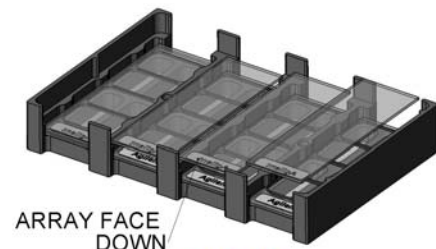

FIGURE 5
5. Holding array at the ends **with the array side down** and ensuring that the barcode side matches with the one on the gasket slide, bring the array down slowly holding it horizontal to the gasket slide (Figure 5).